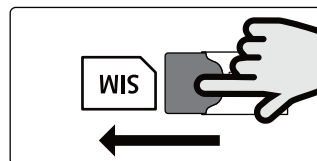

Fig. 37
3. When the other side of the nano SIM sticks out of the SIM holder on the left side carefully use your index finger to slide the nano SIM out of the holder, **Fig.37**.